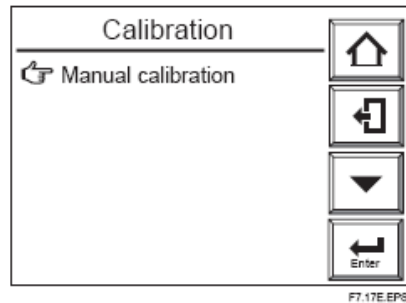

Figure 7.17 Calibration Display
- (1) Press the Setup key in the basic panel display to display the Execution/Setup display. Then select Calibration in the Execution/Setup display. In doing so, the Calibration display as in Figure 7.17 appears.